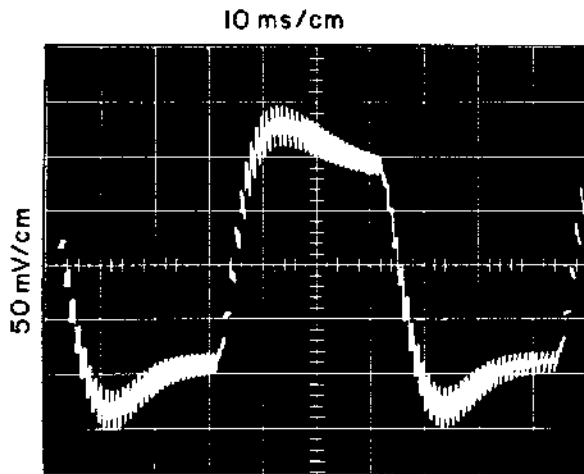

Figure 5-47. Typical Response, BFO Step Voltage
- (7) Adjust R66 to provide a symmetrical response like that shown in Figure 5-47. Slight adjustment may be required to C42.